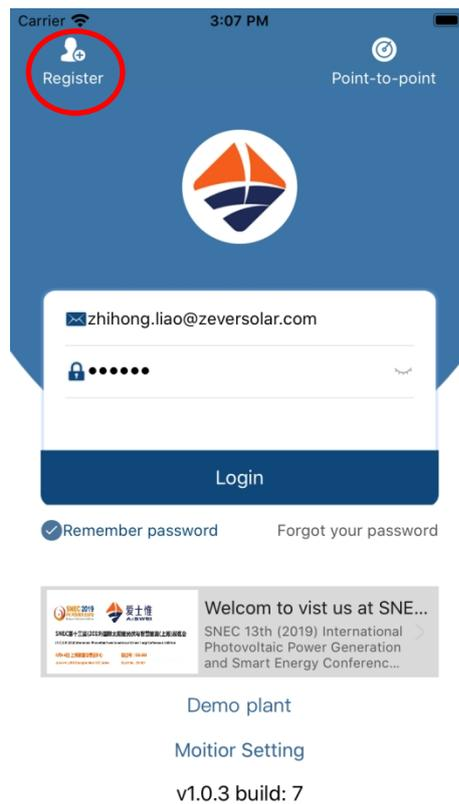
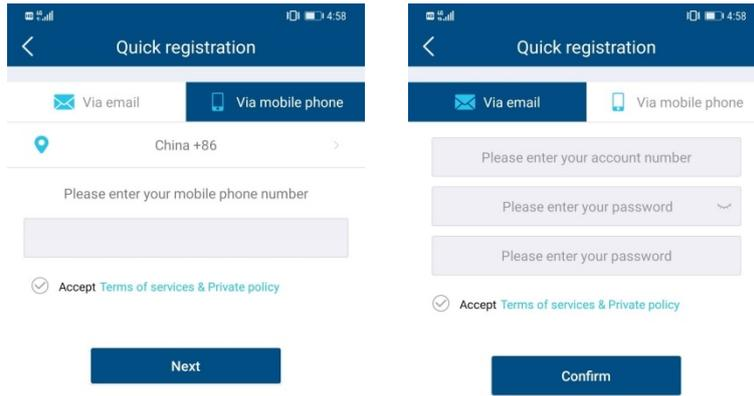

Figure 2-1-1 Home page
Figure 2-1-2 Registration page (tab page to switch email address/mobile phone)
**Step 1: Download and install AiSWEI APP, and open the APP as shown in Figure 2-1-1.**
**Step 2:** Click the "Register" button marked in red in Figure 2-1-1 to enter the registration page, as shown in Figure 2-1-2.
**Step 3(1):** Register via email address (as shown in Figure 2-1-2): Enter the working email address and login password (the password length is greater than 6 digits and less than 32 digits, which can be upper- and lower-case English alphabets A (a) -Z (z) and numbers 0-9)
**Step 3(2):** Register via mobile phone (as shown in Figure 2-1-2): Enter the working mobile phone number and login password (the password length is greater than 6 digits and less than 32 digits, which can be upper- and lower-case English alphabets A (a) -Z (z) and numbers 0-9)